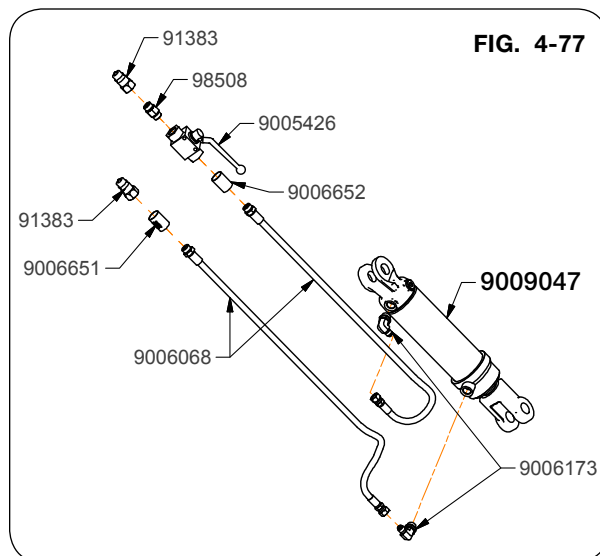

FIG. 4-76
8. Remove cylinder pin (272587) and snap rings (91192) from the base end of the cylinder at the lug on top of the tongue. (FIG. 4-76)
9. Remove hydraulic jack assembly from the tongue. (FIG. 4-76)